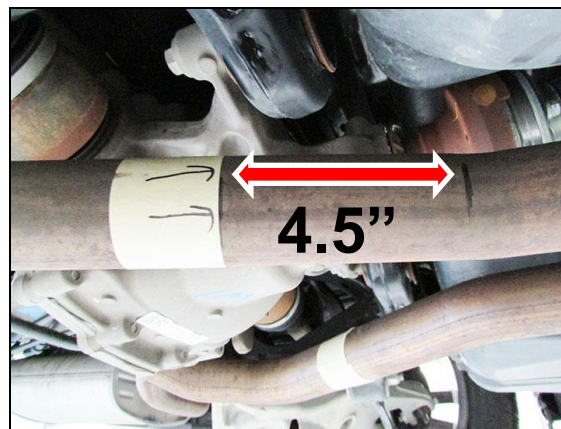

Figure 3
5. With a permanent marker, locate the tangent line (where the bend ends and the straight section of pipe begins) of the right side OE mid pipe and mark a straight line. Now, mark another straight line exactly 4.5" after your tangent mark (4.5" towards the direction of the rear of the vehicle). We suggest using masking tape to wrap around the OE mid pipe to ensure a straight cut. Draw arrows to ensure that you cut the correct side of the masking tape (**Figure 3**). **DOUBLE CHECK AND MEASURE TWICE BEFORE CUTTING.**